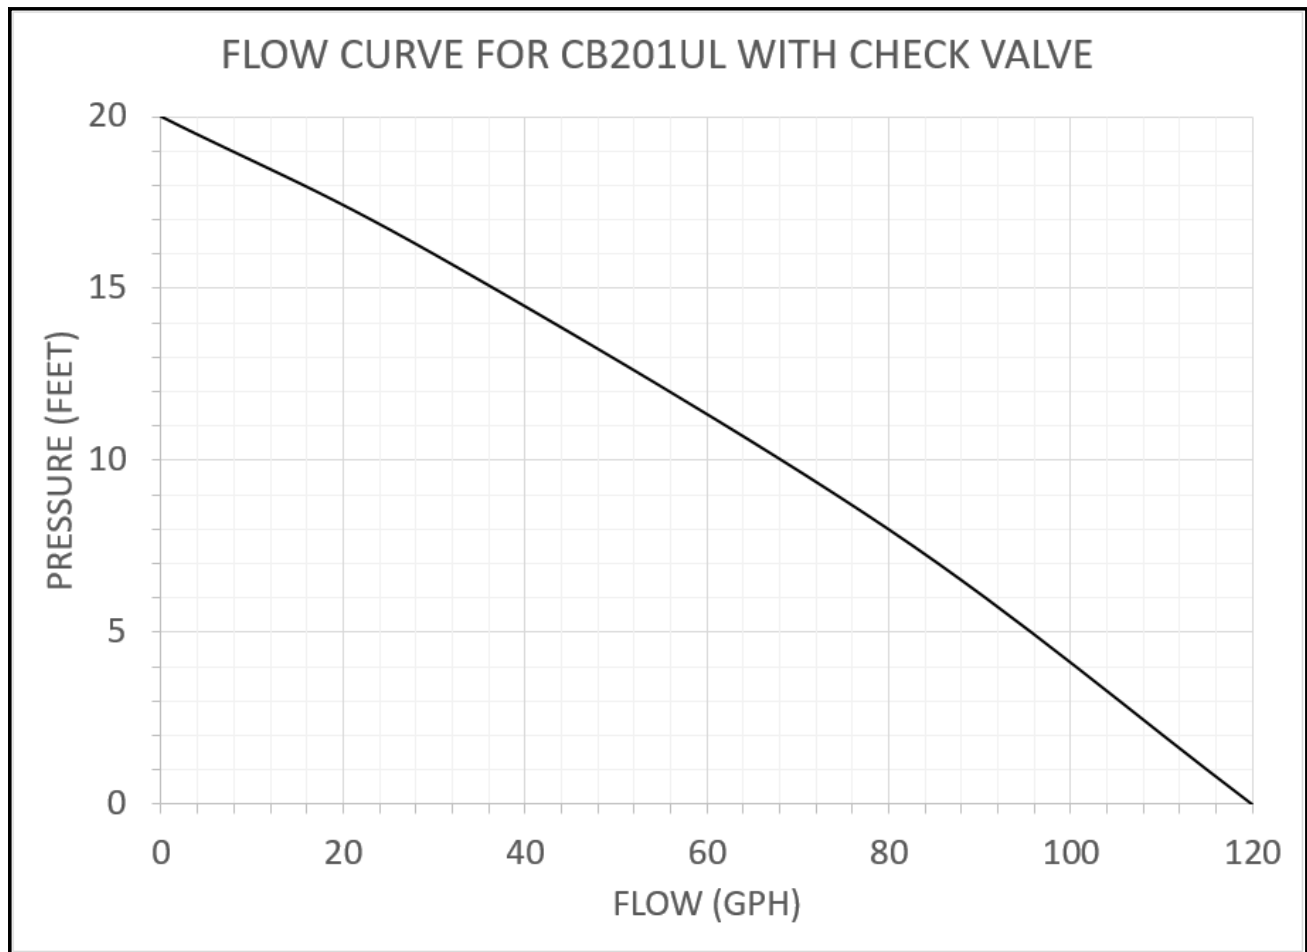

Fig. 3
1. Connect and run the drain line from the pump to a suitable drain per local codes. For best results do not extend discharge tubing beyond 18 feet vertically (Refer to pump performance chart Fig. 3).